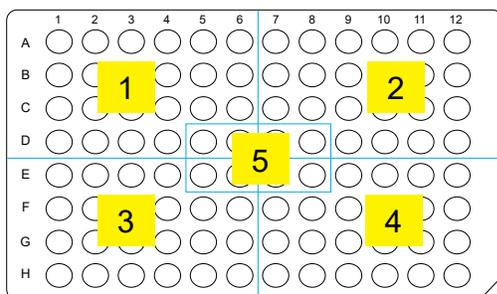

Figure 2 Vortex plates at the corners and center.
- Vortex plates: Vortex at high speed for 1 second in all corners and in the center. (Figure 2.)